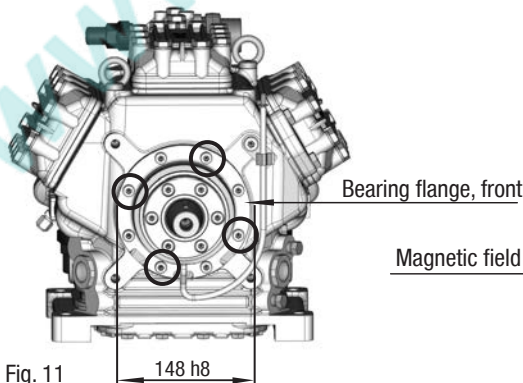

Fig. 11
- To absorb the magnetic field of the electromagnetic clutch, the front bearing flange has a snug fit 148 h8 (see Fig. 11).
- To connect the magnetic field, loosen the 4 cheese head screws M8 on the bearing flange (see Fig. 11).